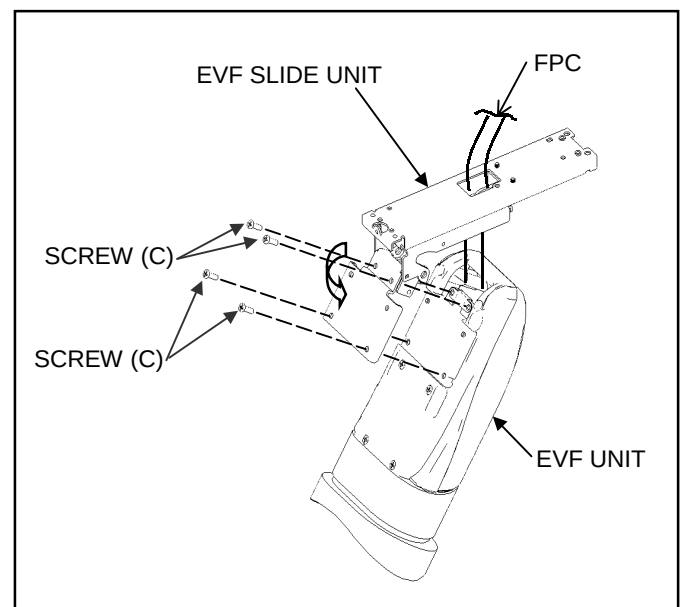

Figure 13-4
7. Unscrew the 4 screws (C) and remove the EVF Unit from EVF SLIDER Unit as shown in figure 13-4.